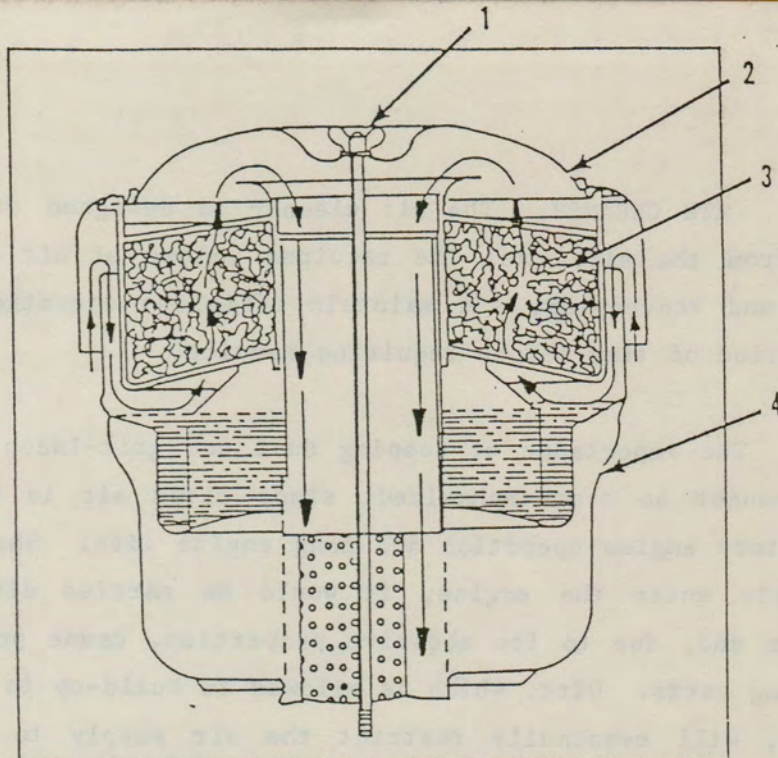

Fig. 5-3. Oil Bath-Type Air Cleaner
5-10. OIL BATH AIR CLEANER. The oil bath air cleaner (Fig. 5-3) consists of a metal wool cleaning element supported inside a housing beneath which is contained a bath of oil. The lower portion of the housing incorporates a chamber which serves as a silencer for the incoming air to the blower.
a. SERVICE. Service the oil bath air cleaner as follows (see Figure 5-3).
(1) Loosen the wingbolt (1) and remove the cleaner from the air inlet housing. the cleaner may then be separated into three sections: the upper section (2) the metal wool element (3), and the lower section (4) containing the oil sump.
(2) Soak the element in fuel oil to loosen the dirt; then flush the element with clean fuel oil and allow it to drain thoroughly.
(3) Empty the sump and clean it with fuel oil to remove all sediment.
(4) Push a lint-free cloth through the center tube to remove dirt or oil from the walls.
(5) Clean and check all gaskets and sealing surfaces to insure air tight seals.
(6) Refill the sump to the oil level mark ONLY, with the same grade of oil used in the engine.
(7) Before installing the air cleaner on the engine, check the air inlet housing for dirt. If the service period has been too long, or if dust-laden air has been leaking past the air cleaner to the air inlet housing seals, the inlet will be dirty. This will serve as a good check on the servicing of the air cleaner. When installing the cleaner (and its seal) on the inlet housing, be sure the cleaner seats properly, then tighten the wingbolt securely until the cleaner is rigidly mounted.